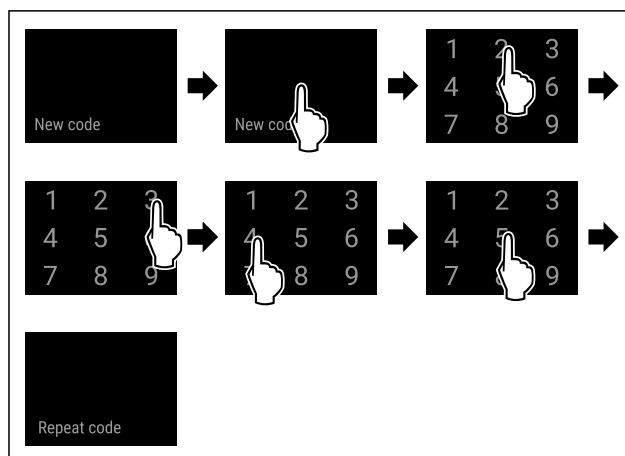

Fig. 95
- ▶ Complete steps (see Fig. 95) .
- ▶ Complete steps (see Fig. 95).